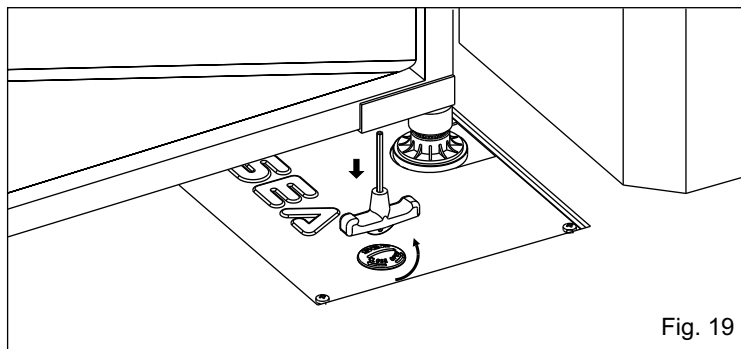

Fig. 19
- Use the supplied key top surface to open the release cap which protects the extension previously installed (Fig. 19)